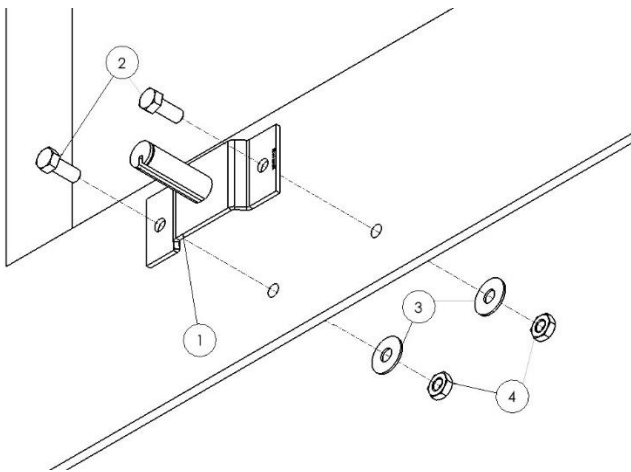

Figure 3.4
Hold the pivot pin (1) centered over the mark created and mark the two mounting holes for drilling. Using a 5/8" drill bit, drill out the mounting holes on both sides of the dump box. Mount the pivot pin with the groove facing down and use the supplied 5/8" x 1-1/2" hex bolt (2), 5/8" washer (3), and 5/8" hex nut (4) to secure the pivot pin to the dump box as shown in Figure 3.4.